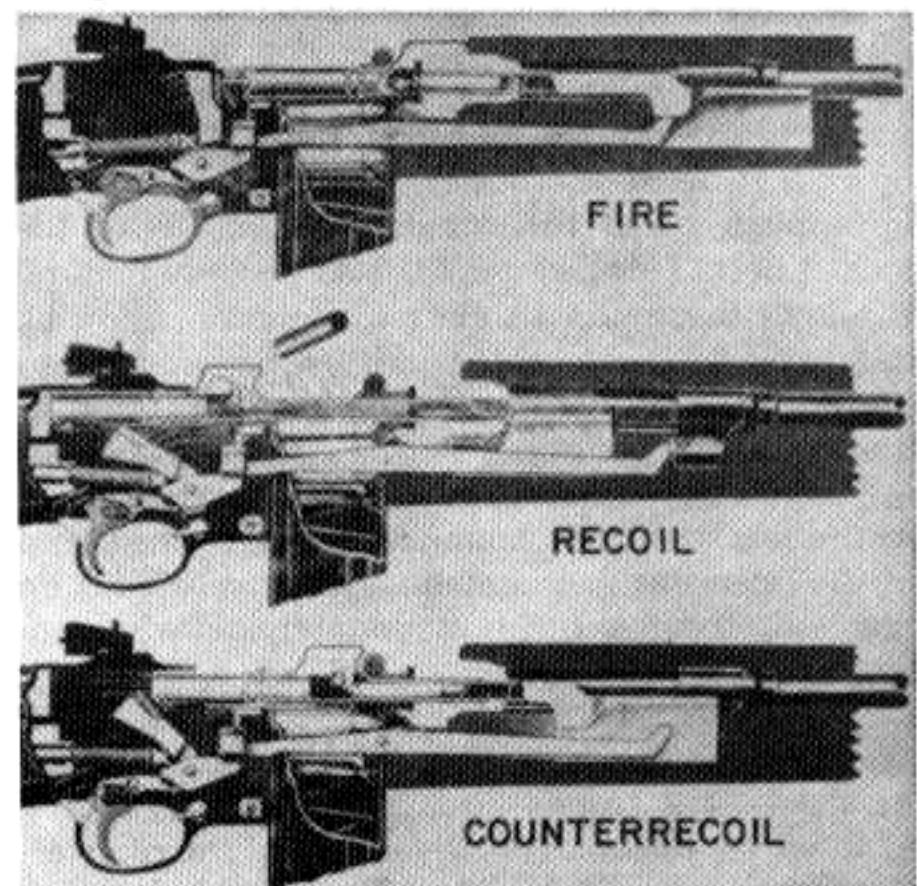

Figure 39. Functioning of operating parts (semi-automatic setting).
a. The action as the operating slide moves forward is the same as on the semi-automatic setting (Page 28) and (Fig. 39), up to the time the camming surface on the operating slide contacts the toe of the disconnect lever. At this point, the operating slide cams down the toe of the disconnect lever. This raises the rear end of the disconnect lever, which is in contact with the disconnect. The forward end of the disconnect is cammed upward. The disconnect rotates about the hammer pin, and the projecting leg on the rear of the disconnect moves downward. With the trigger still held back, the projecting lug of the disconnect presses against the raised shoulder of the sear and the sear nose is disengaged from the hammer. The hammer spring then rotates the hammer forward, and the carbine fires. This happens every time the operating slide moves forward if pressure is maintained on the trigger (see next column).